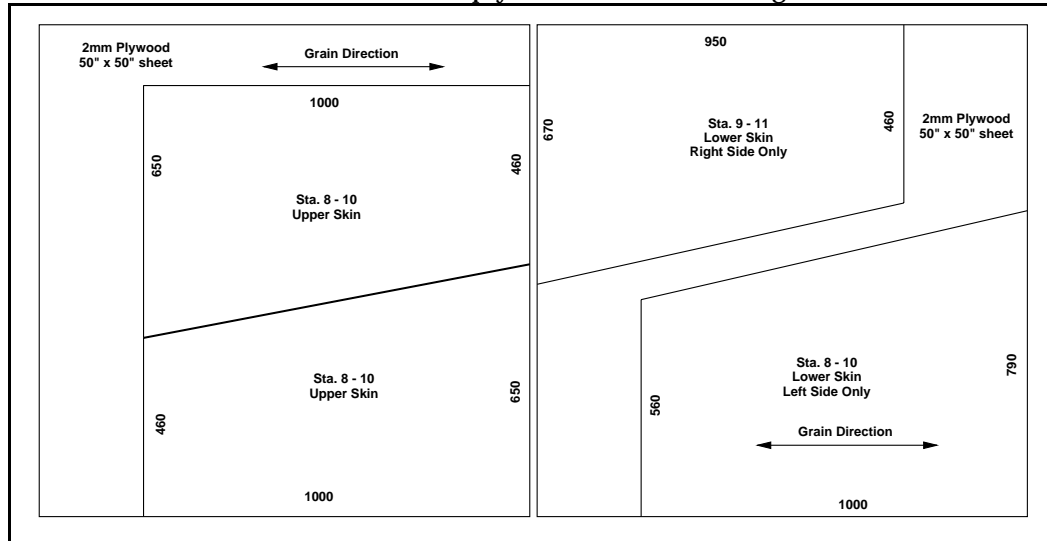

Figure 3
- Cut two 50" x 50" sheets of 2mm birch plywood as shown in Figure 3.